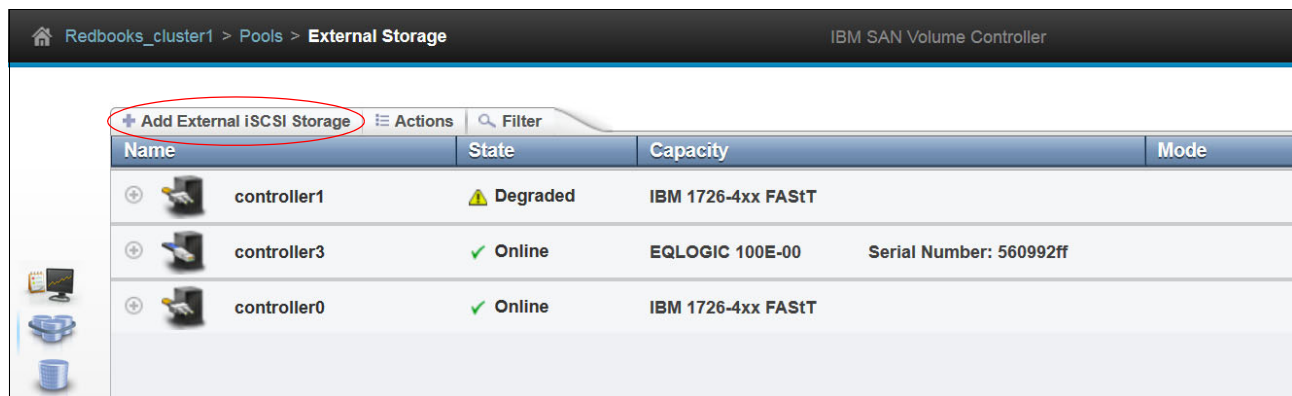

Figure 13-12 External Storage window to add external iSCSI storage
1. Click **Pools** → **External Storage**, and then click **Add External iSCSI Storage** (Figure 13-12).